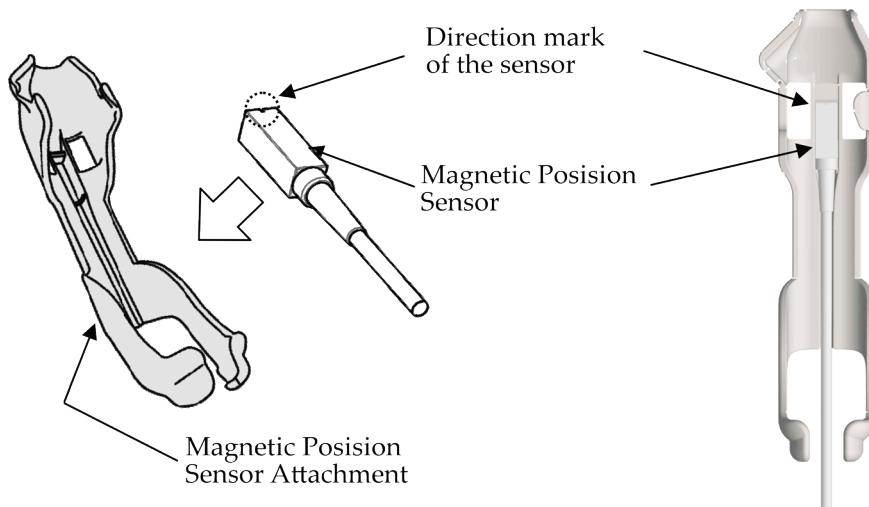

Figure 5 How to attach Magnetic Position Sensor
- (1) Confirm that the magnetic position sensor attachment is sterilized or disinfected.
- (2) Insert the magnetic position sensor into the magnetic position sensor attachment with the correct direction as shown in Figure 5.